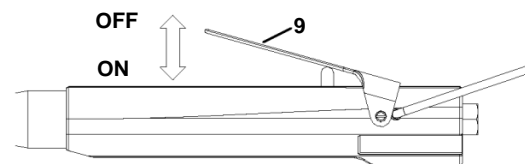

Fig. 4: Switching on/off with the lever valve
Set the screwdriver on the screw and switch on by actuating the valve lever (9). The screwdriver switches off automatically on reaching the set torque. Release the valve lever (see Fig. 4:).